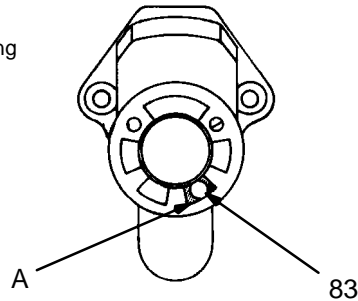
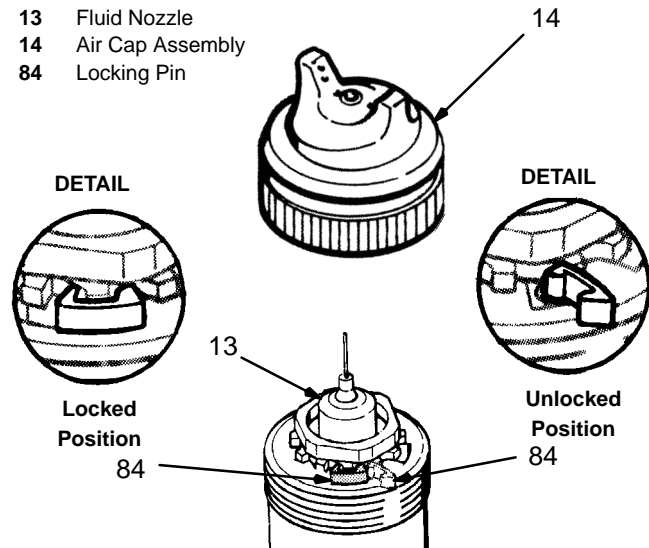

Fig 4
Fig 5
3. Push the pin housing (83) into the slot (A) on the front of the gun until it bottoms out. See Fig 4.
4. Push the locking pin (84) into the housing (83).
5. Turn the locking pin (84) to the unlocked position, and screw the new fluid nozzle (13) onto the gun. See Fig 5.
6. Turn the locking pin (84) to the locked position to lock the fluid nozzle (13) in place.
7. Carefully install air cap assembly. Avoid bending electrode (12). Tighten the retaining nut so it is snug, allowing the air cap to turn with resistance. If too tight, the spray pattern will be distorted.